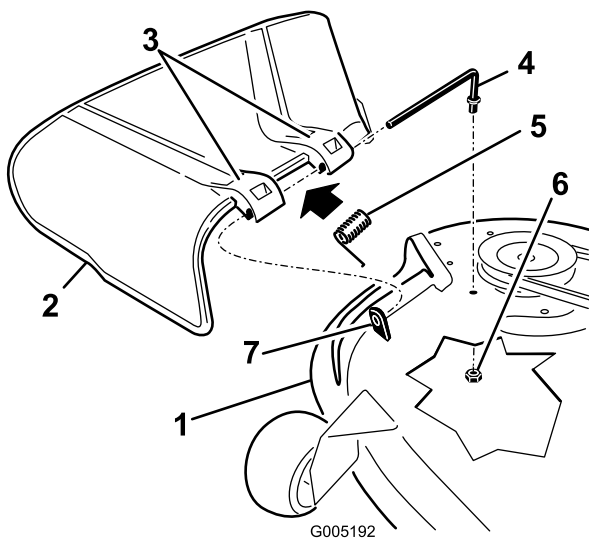

Figure 60
- Locate items shown in Figure 60.
2. Remove the nut (3/8 inch) from the rod under the mower (Figure 60).
3. Slide the rod out of the short stand-off, spring, and grass deflector (Figure 60). Remove the damaged or worn grass deflector.
4. Replace the grass deflector (Figure 60).
6. Place the spring on the rod, with end wires down, and between the grass deflector brackets. Slide rod through second grass deflector bracket (Figure 60).
7. Insert rod at front of grass deflector into short stand-off on deck. Secure rear end of rod into the mower with a nut (3/8 inch) (Figure 60).